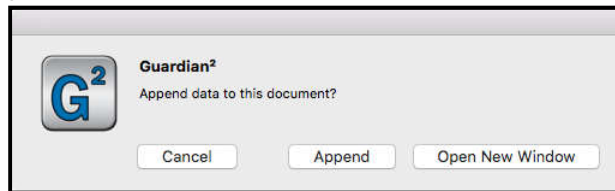

Figure 28
- 3) Guardian² will display a window (Figure 28) with the following choices: